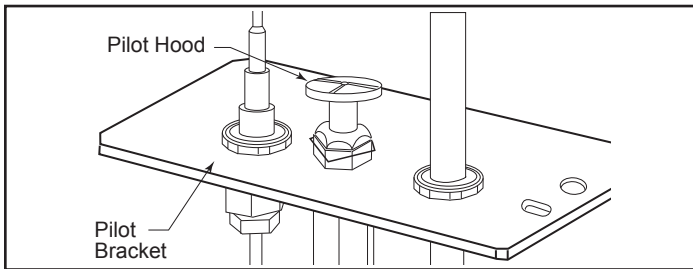

Figure 73 - Remove pilot hood.
- Remove pilot hood by lifting up, Figure 73. Do not remove snap ring to remove pilot hood. **NOTE:** It is not necessary to remove the pilot tube for conversion.